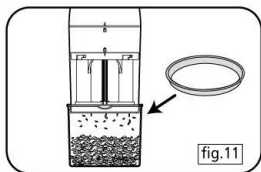

fig.11
2. Press the Start Button when the Grater is seated on top of the Storage Box using the adapter plate. (Fig. 11)